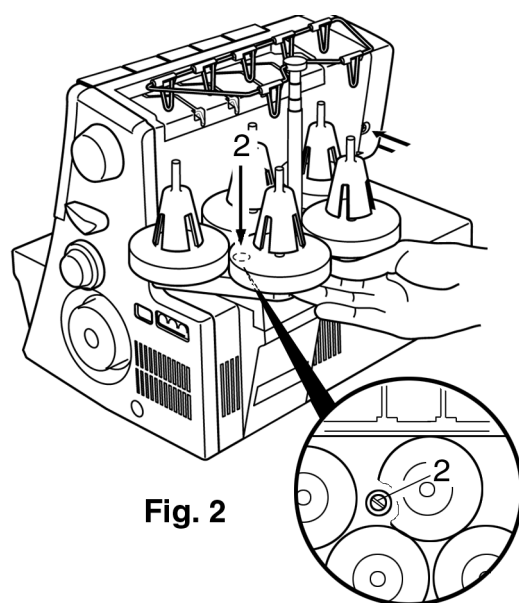

Fig. 2
- Remove the spool disc and the thread spool centering pieces (fig. 2).